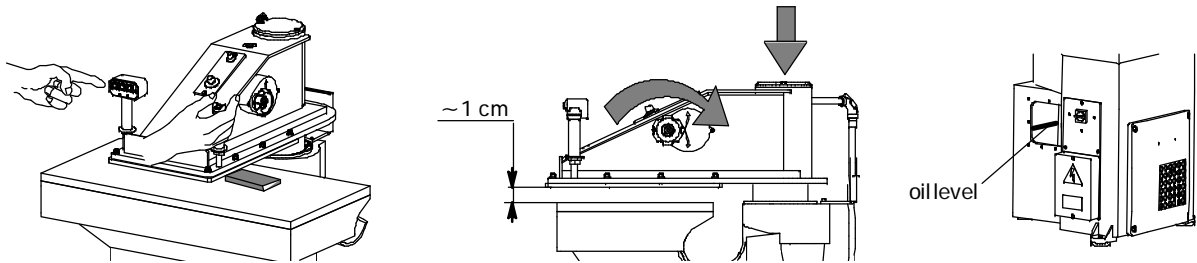

Fig. 9
- Place a wooden piece or another resistant spacer 2 cm thick between the cutting board and the turning arm and run the machine for a few minutes by pressing **simultaneously** the push-button on the right handle and one of the three push-buttons on the left handle. Carry out this operation in order to exhaust all the air from the cylinder pipes. Remove the spacer and being sure that nothing is on the working surface, slowly turn the handwheel clockwise till the arm is 1 cm from the cutting table (Fig. 9). At this point check the oil level in the tank and if necessary re-fill it, till reaching the maximum level red line (right Fig. 9). Only in this way you will be sure that there is the exact quantity of oil in the tank.